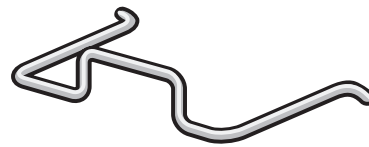

Figure 22. Power cord retaining clip
1. Locate the power cord retaining clip, shown in Figure 22.